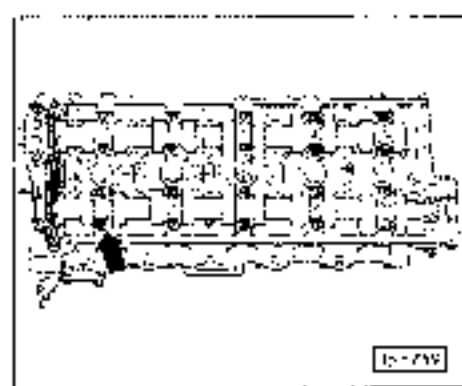

Fig. 1 Installation position of separate bearing cap
- Valve dimensions - Fig. 1
- Before installation, check axial clearance of combustion - Fig. 1